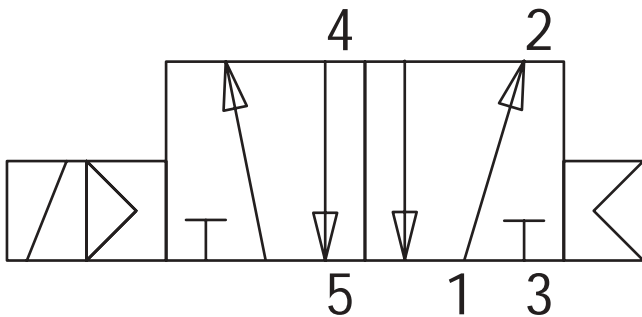
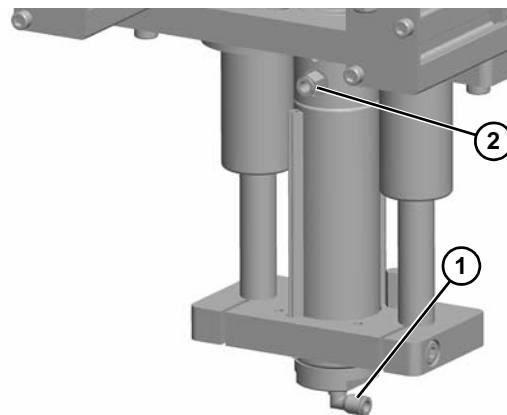

Figure 63
Figure 66
Dorner recommends using a 5 port, 2 way solenoid valve (Figure 63) to operate the Lift and Rotate Pallet Unit.
1. Connect Port 4 (Figure 63) of the 5 port, 2 way solenoid to the lowest port (Figure 66, item 1) on the lift. Dorner fittings accept 1/4" outside diameter tubing standard.
2. Connect Port 2 (Figure 63) of the 5 port, 2 way solenoid to the upper port (Figure 66, item 2) on the lift. Dorner fittings accept 1/4" outside diameter tubing standard.